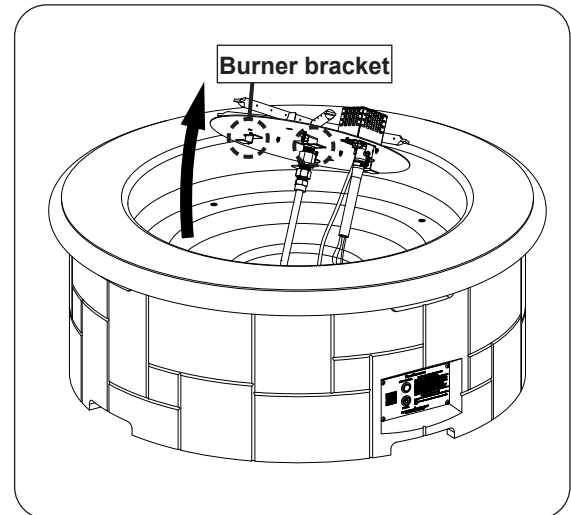

Fig. 25-2 Remove burner assembly
2. Use a $\frac{5}{16}$ " nut driver to partially unfasten the four screws found on the burner assembly. Then carefully remove the burner and set it off to the side. See Fig. 25-2.